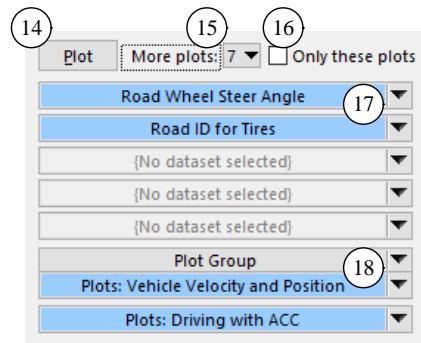

Figure 13. Additional controls shown for extra plots.
- ⑮ **More plots** drop-down control. Use this control to display up to eight **Plot: Setup** links on this screen (Figure 13).